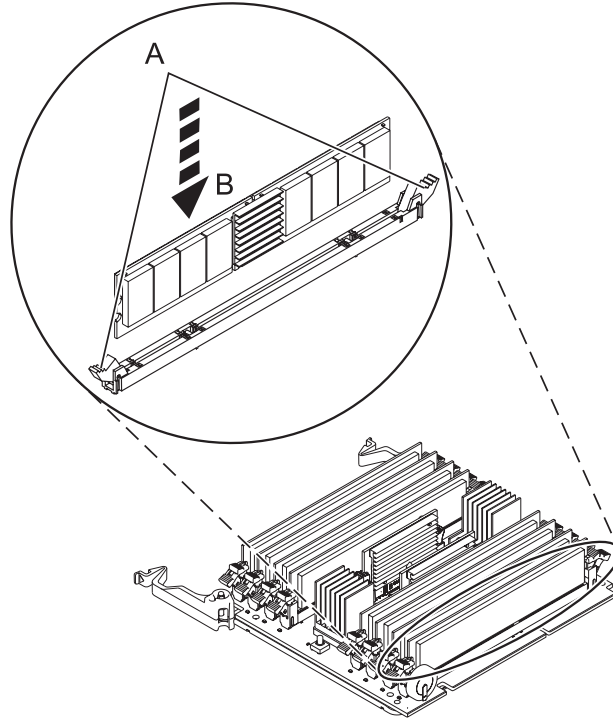

Figure 9. Replacing a memory module
12. Ensure that the connector locking tabs (A) are pushed open into the unlocked position, as shown in Figure 9 on page 15, before installing a new memory module.
13. Carefully grasp the memory module along the edge (B) and align it with the connector.